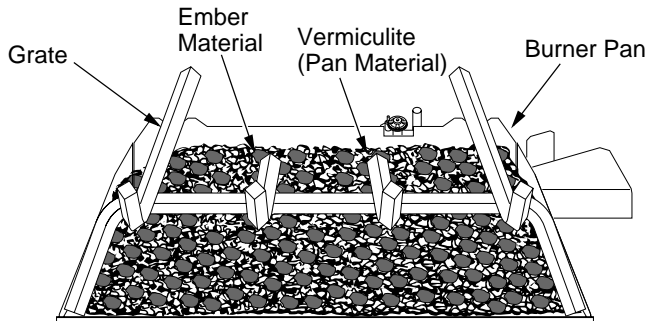

Figure 21 - Ember Material on Surface of Pan Material (Vermiculite) (P325E/VP325E Model Shown)
3. Remove the ember material from the bag and flatten small amounts into quarter size pieces and lay on top of the surface of the pan material (see Figure 21).